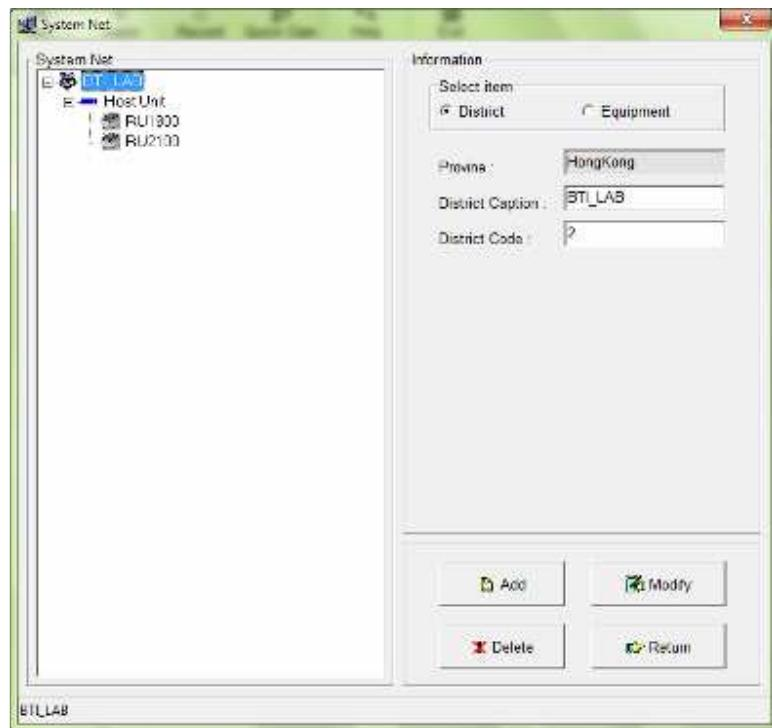

Figure 3-11. Completion of the System Configuration
- Figure 3-11 shows the completion of the system configuration and adding Host unit and Remote Units in NMS.